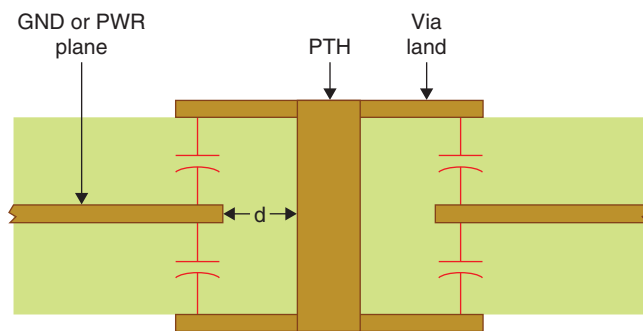

Figure 5-15 PTH or via with oversized lands overlapping plane.
If the land (pad) is designed per Eq. (5) above and the minimum clearance between the hole and the plane is used, the clearance diameter will typically be several mils larger than the lands. If the lands are larger than the clearance diameter, however, there will be an overlap of the lands and the plane layers as shown in Fig. 5-15, even if the clearance (dimension d) meets IPC standards. This should be avoided as there will be capacitive coupling between the